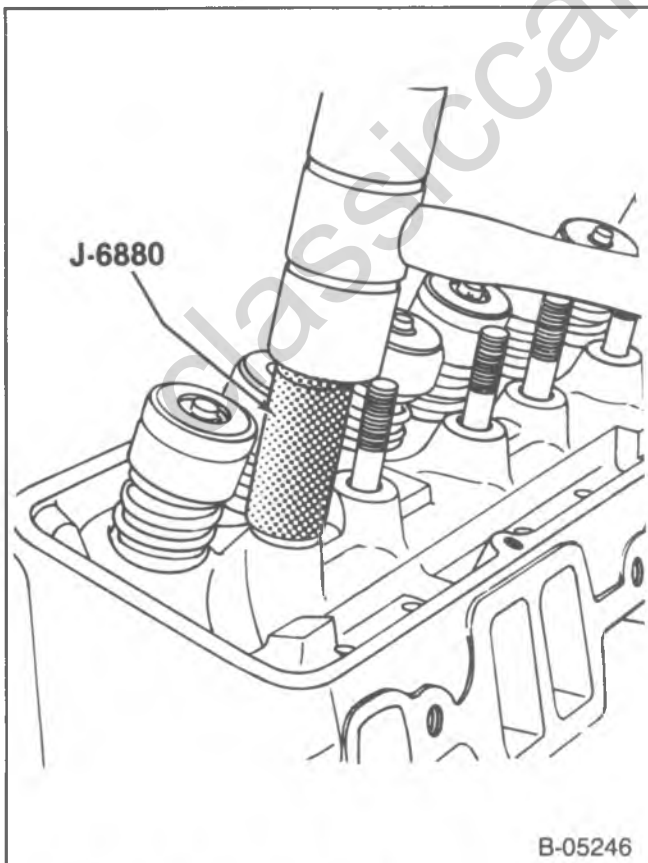

Figure 14—Installing the Rocker Arm Stud
1. Rocker arm stud. Use J-6880 (figure 14). Stud is installed to proper depth when the tool bottoms on the cylinder head.